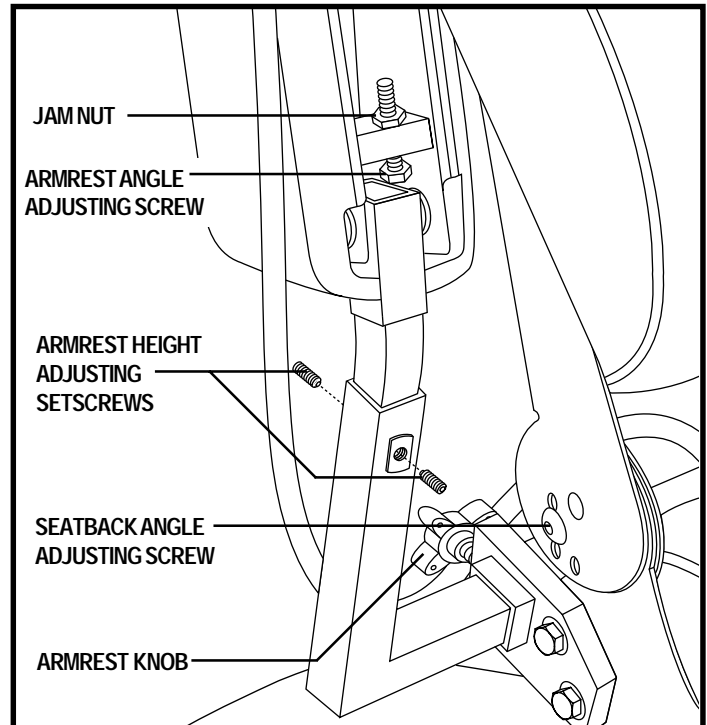

Figure 15. Seatback/Armrest Adjustment
1. Remove the adjusting screws from each seat hinge. See figure 15.
1. Locate the two armrest knobs on each side of the armrest receiver bracket. See figure 15.
1. Lift the armrest straight up so that it is perpendicular to the floor. See figure 15.